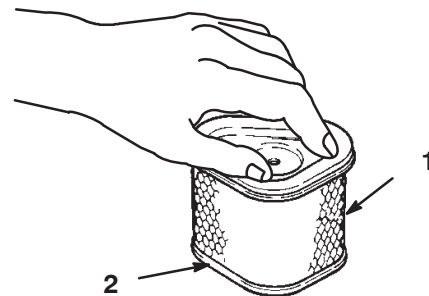

Figure 23
1. Inspect the element for tears, an oily film, and damage to the rubber seal (Fig. 23).